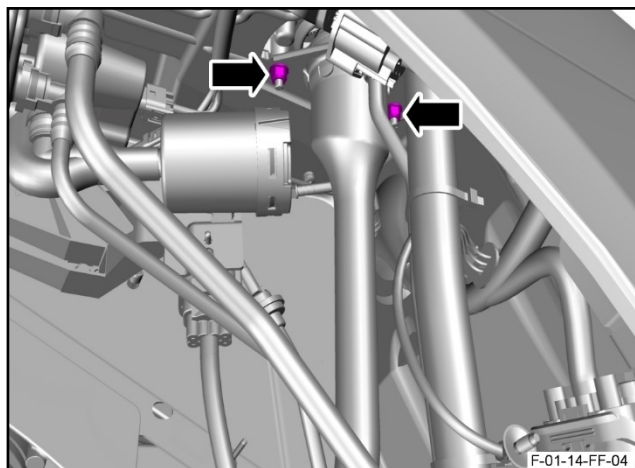

Figure 11
25. Install and torque the two nuts that attach the fuel filler to the body to 9 Nm (refer to Figure 11).